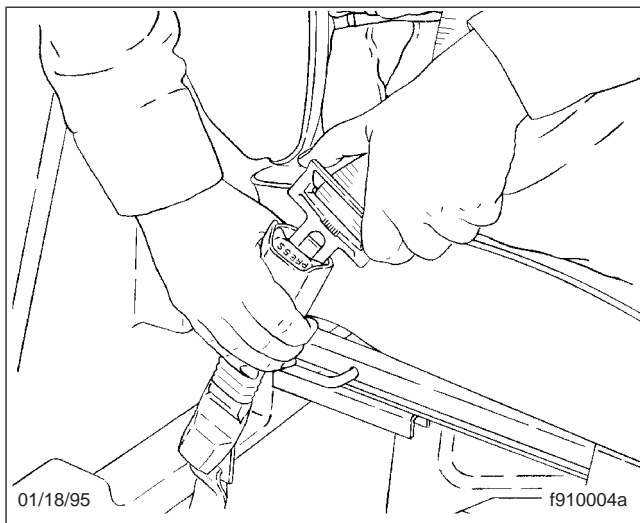

Fig. 5.17, Fastening the Three-Point Belt
2. Fasten the three-point seat belt by pushing the link into the buckle until it latches. See Fig. 5.17. Give the belt a tug at the buckle. If the buckle unlatches, repeat this step. If the problem continues, replace the three-point seat belt.